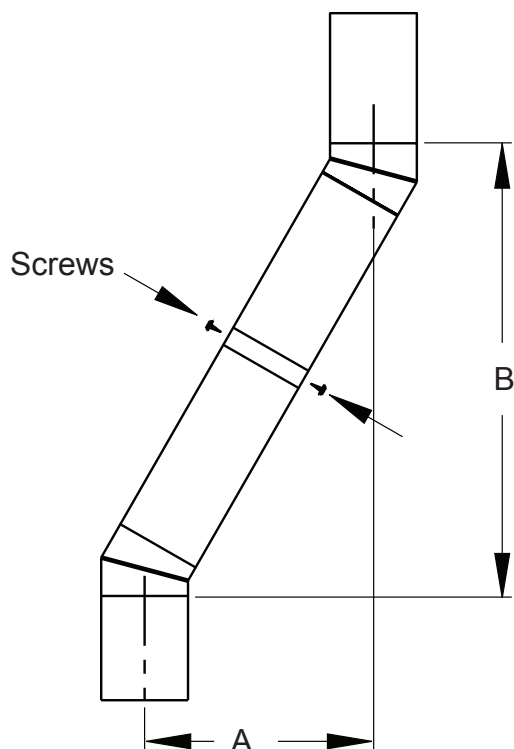

Figure 9 - Elbow Offset
Continue to assemble chimney sections as outlined above, making sure that both the inner and outer pipe sections are locked together. When installing double wall snap-lock chimney together, it is important to assure the joint between the chimney sections is locked. Check by pulling chimney upward after locking. The chimney will not come apart if properly locked. It is not necessary to add screws to keep the chimney together (exception, see Figure 9, page 9).
1. To achieve desired offset, you may install combinations of 12", 18", 24", 36" and 48" length of double wall pipe (see offset chart and Figure 9).